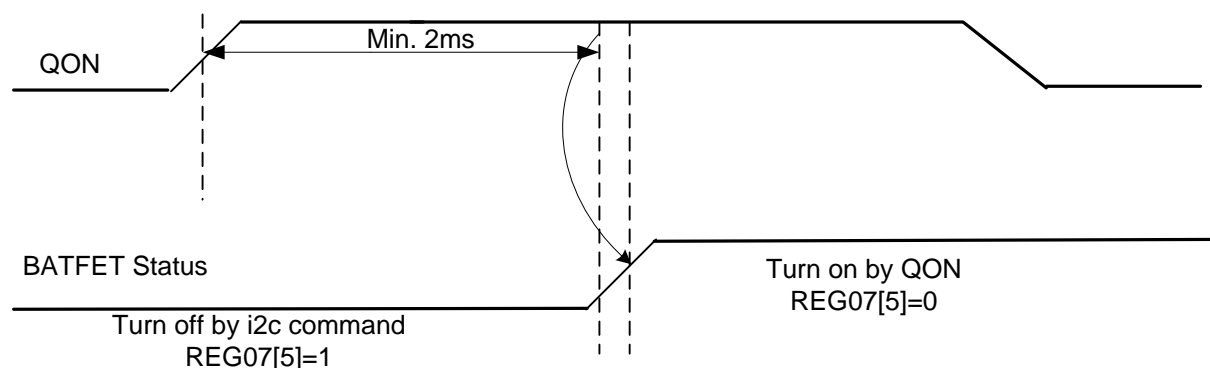

Figure 11. QON Timing
5. A logic low to high transition on QON pin (refer to Figure 11 for detail timing)